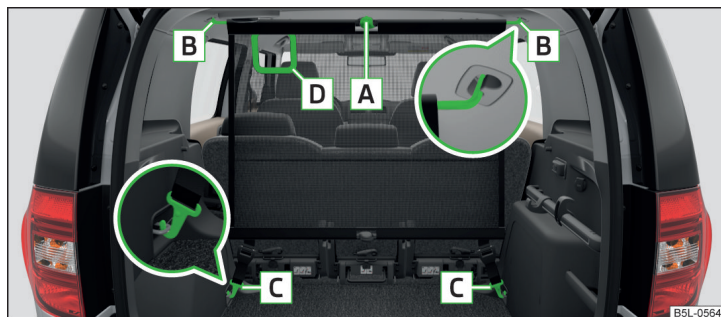

Fig. 114 Using the net partition behind the rear seats
- › First insert the rod into the mount **B** » Fig. 114 on one side and push it forwards. In the same way, insert the cross rod into the mount **B** on the other side of the vehicle.
- › Undo the belts on both sides and unhook the carabiners **C** » Fig. 114.
- › Press the red button of the joint **A** » Fig. 114.
The opening **D** » Fig. 114 in the net partition is for passing the three-point seat belt » page 13 through.